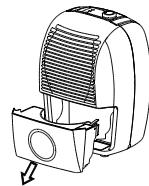

Fig. 9
- Pull the water bucket out as shown in Fig.9.